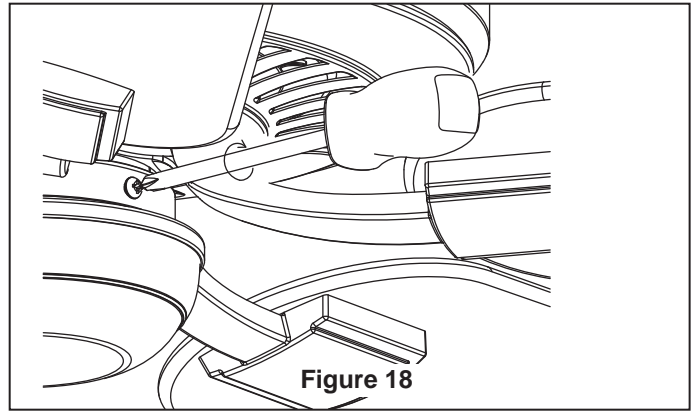

Figure 18
2. Assemble the Switch Cup Assembly onto the Housing Adapter with three screws. (Figure 18)